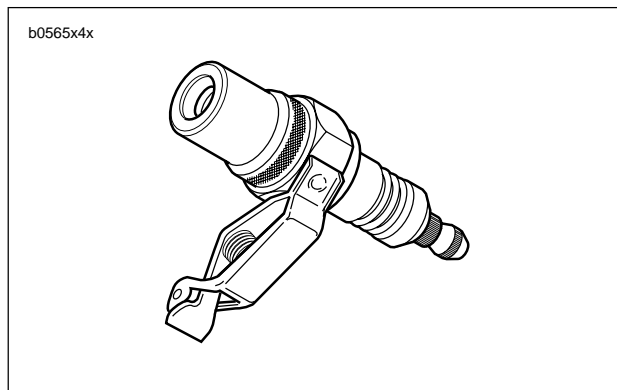

Figure 4-130. Spark Plug Tester (Part No. HD-26792)
- b. See Figure 4-130. Attach cable to SPARK PLUG TESTER (Part No. HD-26792). Clip tester to cylinder head bolt.